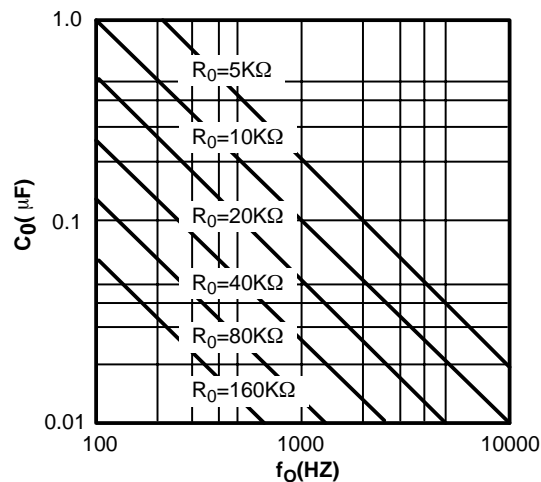

Figure 6. VCO Frequency vs. Timing Resistor
VCO Timing Capacitor (Pins 13 and 14): VCO frequency is inversely proportional to the external timing capacitor, C_0 , connected across these terminals (see *Figure 6*). C_0 must be non-polar, and in the range of 200pF to 10μF.
- Calculate value of C_0 from design equation (1) or from *Figure 6* $f_S = f_O$: